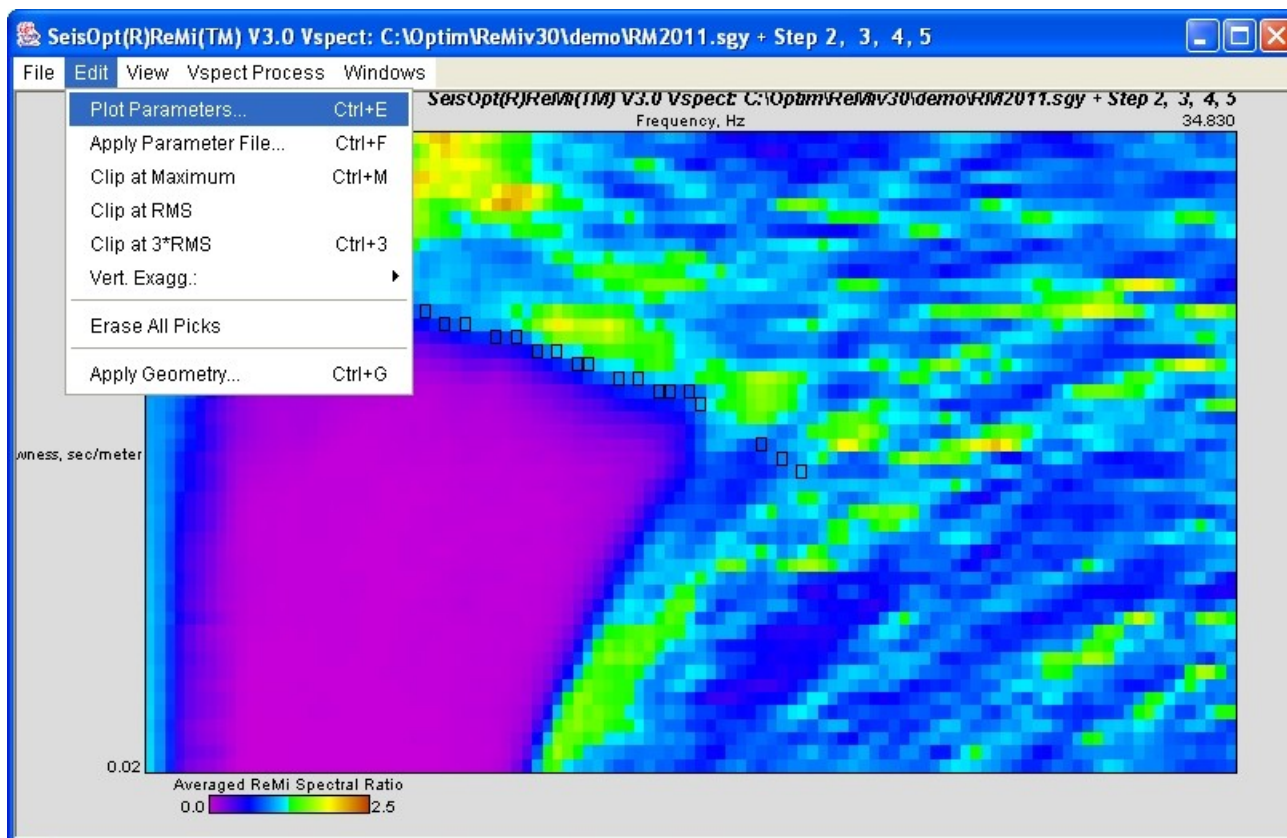
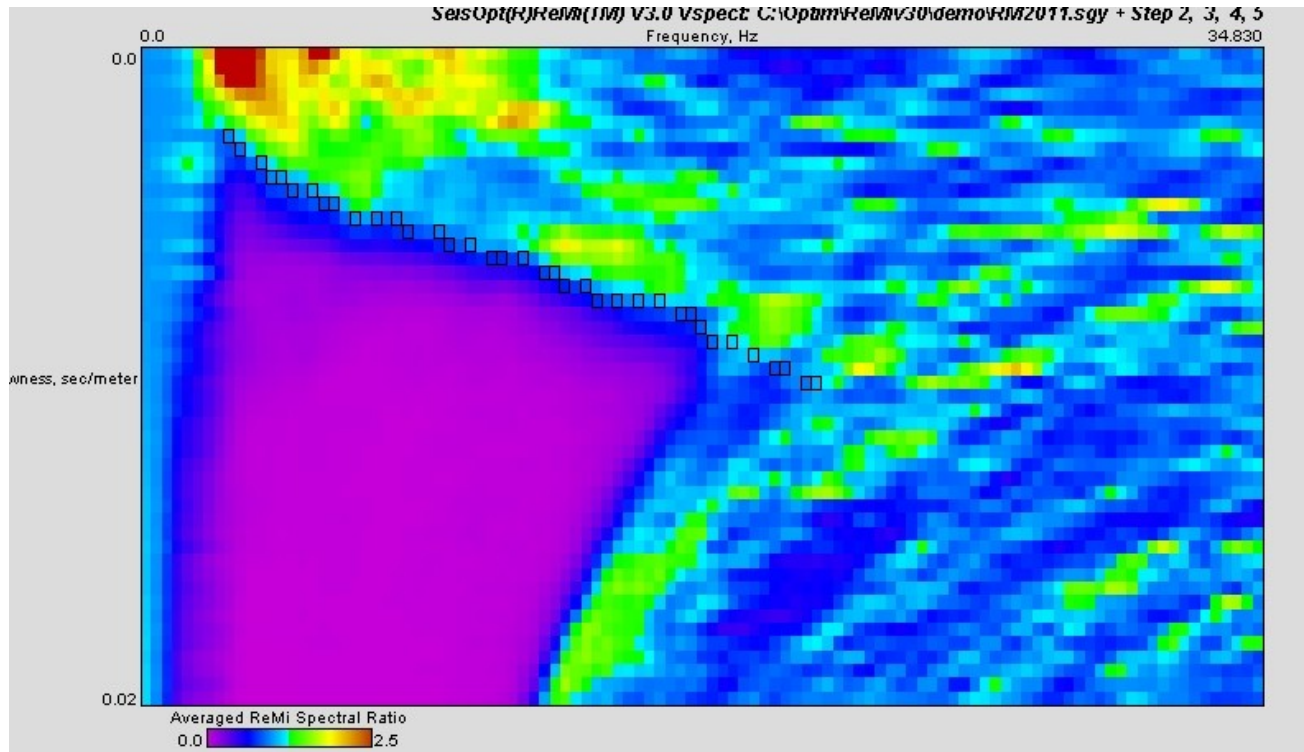
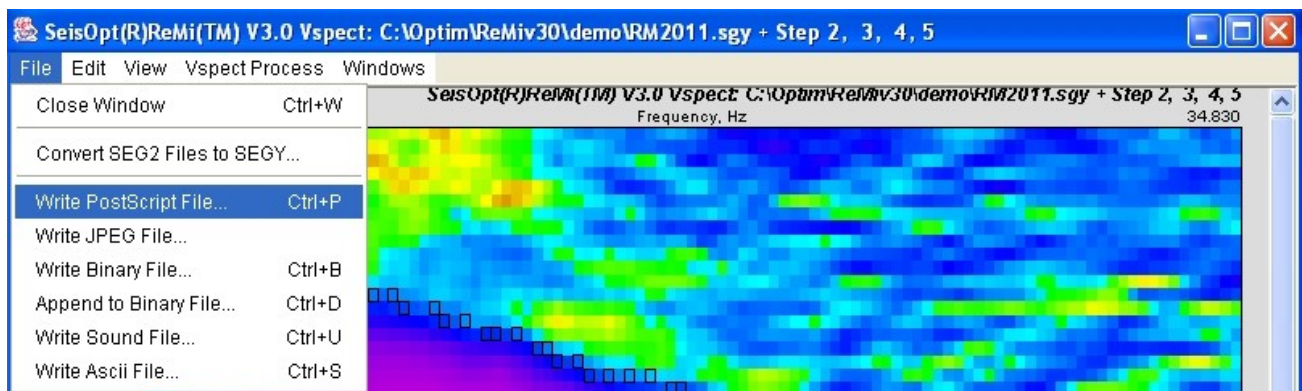

Figure 39: Select “Plot Parameters” from the “Edit” menu to bring up the plot properties window.
Figure 45: Select “Write JPEG File...” under the “File” menu to create a jpeg image of the p-f image with the picks.
Figure 46: Select the “Write PostScript File...” to write out a PostScript file of the image.
- ◆ Select "Plot Parameters" option from the "Edit" menu (Figure 39).
The default plot parameters used to render the velocity spectrum (p-f image) can be viewed and edited by choosing the “Plot Parameters...” option from the “Edit” menu (Figure 39 and 40). This window is similar to the plot parameter window for displaying and plotting the microtremor records. See Section 3.1.3 for a description of each parameter in the window. One can change the title of the plot or the axes if desired. The aspect ratio and the color palette can also be changed. The following sections describe how to create report quality output of the p-f image, with or without the picks.
After setting the desired plot parameters as described in the previous section, there are two ways to create a file containing the image shown in Figure 39 that can output to a printer or imported into a report. The first option is to use the “Write JPEG File...” option under the “File” menu (Figure 46) to write out the image in jpeg format (Figure 45). Make sure to provide a ‘.jpg’ extension to the file name.
To write out a PostScript file, choose the “Write PostScript File...” option from the “File” menu (Figure 46). A dialog window will open up. Choose an appropriate name with the ‘.ps’ extension.